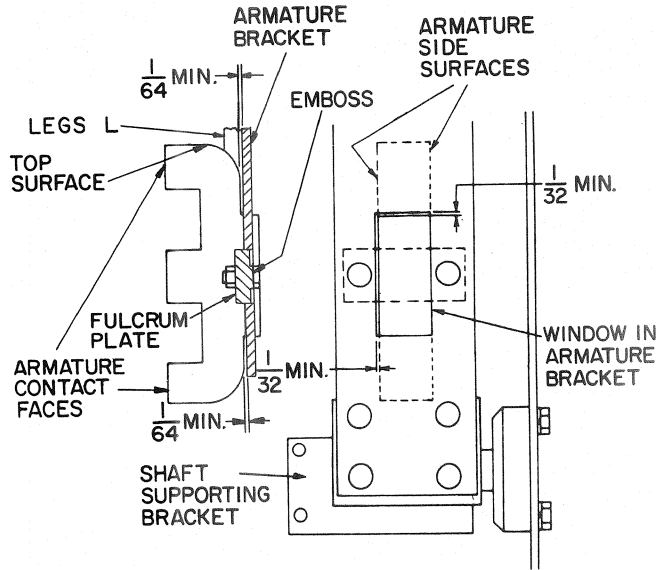

Fig. 30. A-c magnet assembly shown with contactor closed
1. The top and side surfaces of the armature and stationary-magnet (see Fig. 30), frame must be aligned within 1/32-inch. More misalignment will allow the magnets to wear unevenly and must be corrected to give the proper alignment if quiet operation is to be achieved. If the magnet contact surfaces are worn and misaligned more than 1/16-inch, and the magnet is noisy, both the armature and stationary-magnet frame must be replaced. Magnets operating with excessive noise will reduce the life of their operating coils because the picked-up magnet will eventually draw excessive magnetizing current.
3. The armature in picked-up position must have a minimum of 1/64-inch spacing between it and its armature bracket. (See Fig. 30.) The fulcrum plate must always be assembled with its emboss toward its armature bracket per Fig. 30.
4. The armature bracket must be assembled to its shaft supporting bracket in such a manner that the armature has a vertical endplay in its armature support of 1/32-inch minimum. (See Fig. 30.) The armature width is such that a sideplay of 1/32-inch exists. This freedom of the armature in all directions is necessary to allow it to seat properly against the magnet frame.
5. All three contact faces (see Fig. 30) of the magnet frame are machined in the same plane. The outside contact faces of the armature are machined in the same plane. All of these contact faces are machined very accurately with a good finish to allow satisfactory operation. The armature's middle leg is machined 0.003 to 0.007 inch below the plane of the outside leg. This machining was done to give magnet life without magnet operating noise.
6. Both magnets should be replaced when the armature legs are worn so that the center leg hits on the center leg of the magnet frame. Both magnets which are worn at all with the misalignment present of item 1 must also be replaced, as magnets when realigned will have some rolling action present and will be very noisy.
1. Top surfaces of armature and stationary magnet (see Fig. 30) frame must be aligned within 1/16 inch. Alignment is not so important as with a-c magnets as noise problems are not encountered. Armature must be approximately centered laterally over stationary magnet frame.
3. Armature in picked-up position must have a minimum of 1/64-inch spacing between it and armature bracket. (See Fig. 30.) Fulcrum plate must be always assembled with its emboss toward its armature bracket per Fig. 30.
4. The armature bracket must be assembled to its shaft supporting bracket in such a manner that the armature has a vertical end play in its armature support of 1/32-inch minimum (see Fig. 30). Armature width is made so that a side play of 1/32-inch exists. This freedom of the armature in all directions is necessary to allow it to seat properly against the magnet frame.